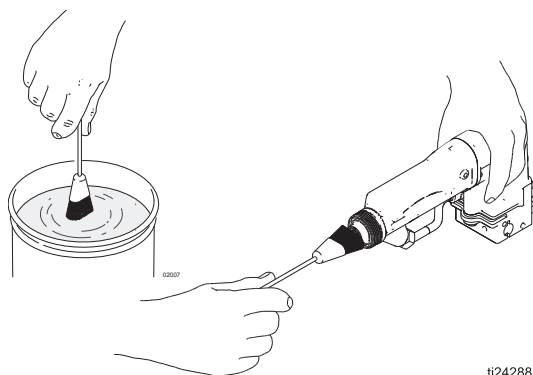

FIG. 17 Clean Front of Gun
3. Remove the retaining ring (24), air cap/tip guard (25), spray tip (3), and gun shroud (26). See page 39.
4. Dip the end of a soft bristle brush into compatible solvent. clean the front of the gun with the brush. Avoid getting any solvent into the air passages. Whenever possible, point the gun down when cleaning it. See FIGURE 17